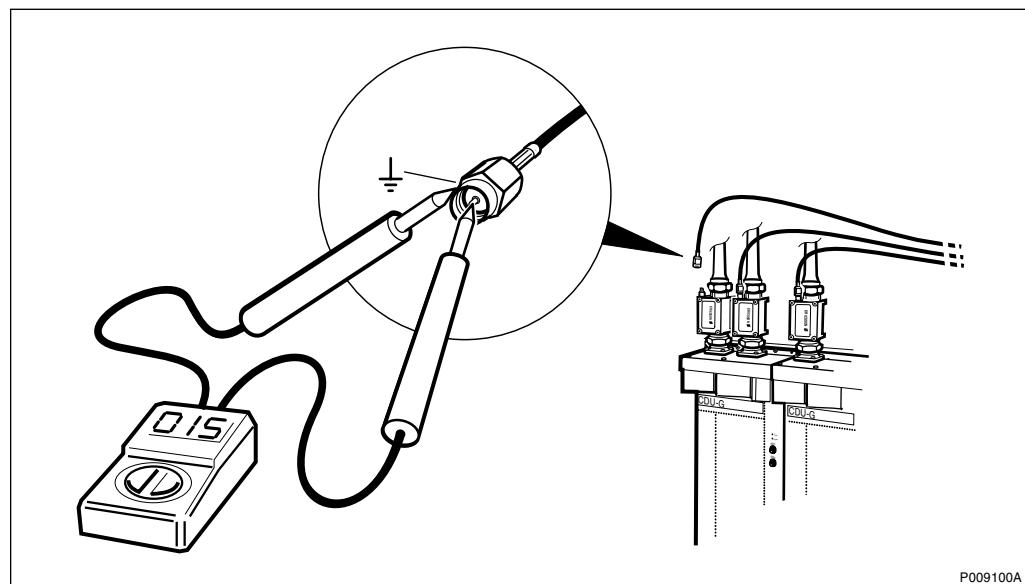

Figure 54 Measuring the voltage on the bias injector DC cable
1. Use a multimeter to measure that 15 V DC is being supplied to the bias injector, see *Figure 54 on page 122*.
1. Use a multimeter to measure that 15 V DC is being supplied to the bias injector, see *Figure 54 on page 122* .